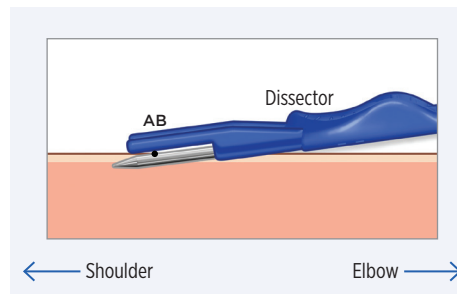

Figure 3
3. With the tips of the depth guards on the skin and the blunt dissector at the subcutaneous space, lower the angle of skin entry to approximately 5-10 degrees (Figure 3) taking care to ensure that the fingers are not under the metal rod or plastic portions of the tool, which would cause a steeper angle.
4. Move the blunt dissector toward the shoulder, while maintaining the metallic and plastic parts of the tool in close contact with the skin to ensure the smallest possible angle of the pocket with respect to the skin (Figure 3).